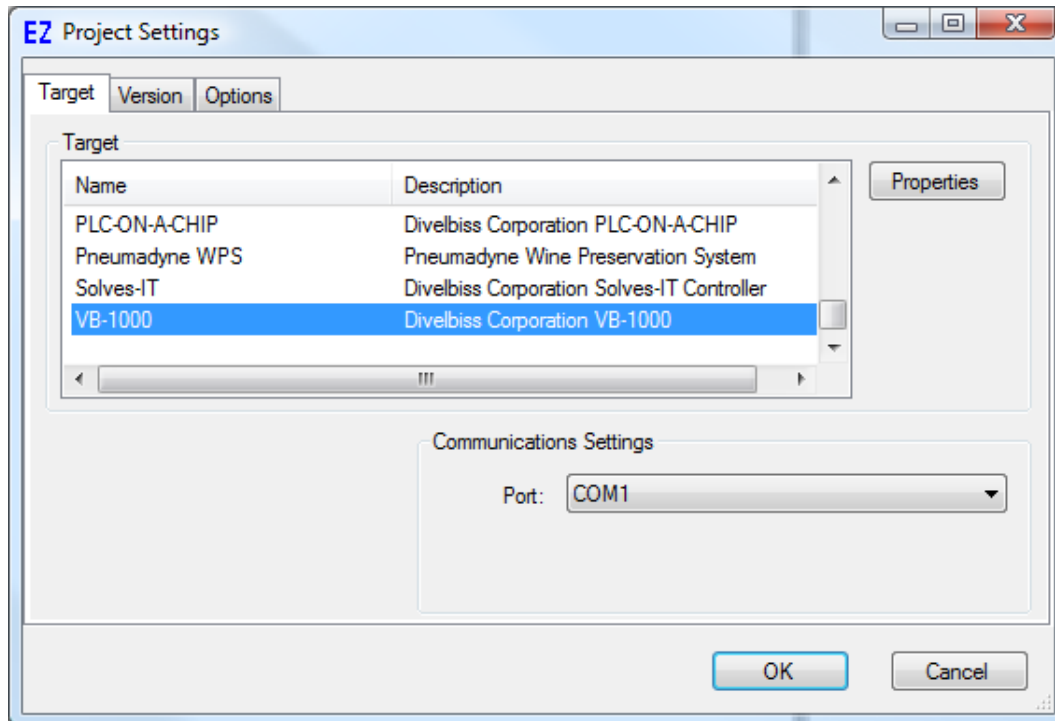

Figure 1.4 - Project Settings Window
1. In EZ LADDER, from the File Menu at the top, click **PROJECT** then **SETTINGS**. This will open the Project Settings Window. Select **VB-1000** as the target from the choices. Refer to Figure 1.4.